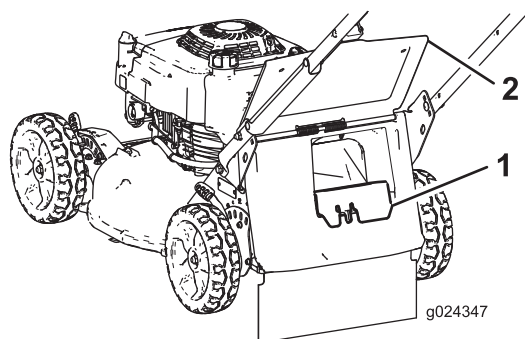

Figure 18
- If the rear-discharge plug is not installed, grip it by the handle, raise the rear door, and insert it into the rear-discharge chute until the latch locks into place (Figure 18).
1. Rear door 3. Notch (2)
2. Bag-rod end (2) 4. Grass bag
3. Remove the rear-discharge plug by pushing in the latch with your thumb and pulling the plug out from the machine (Figure 18).